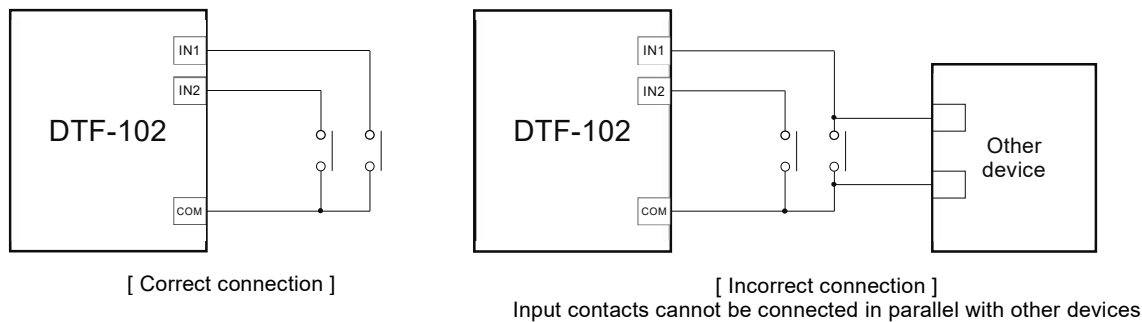

Fig.7-1 Wiring Example for Contact Input
- Do not use the input contact in parallel connection or series connection with other devices. (Figure 7-1) It may damage the receiver or other equipment.